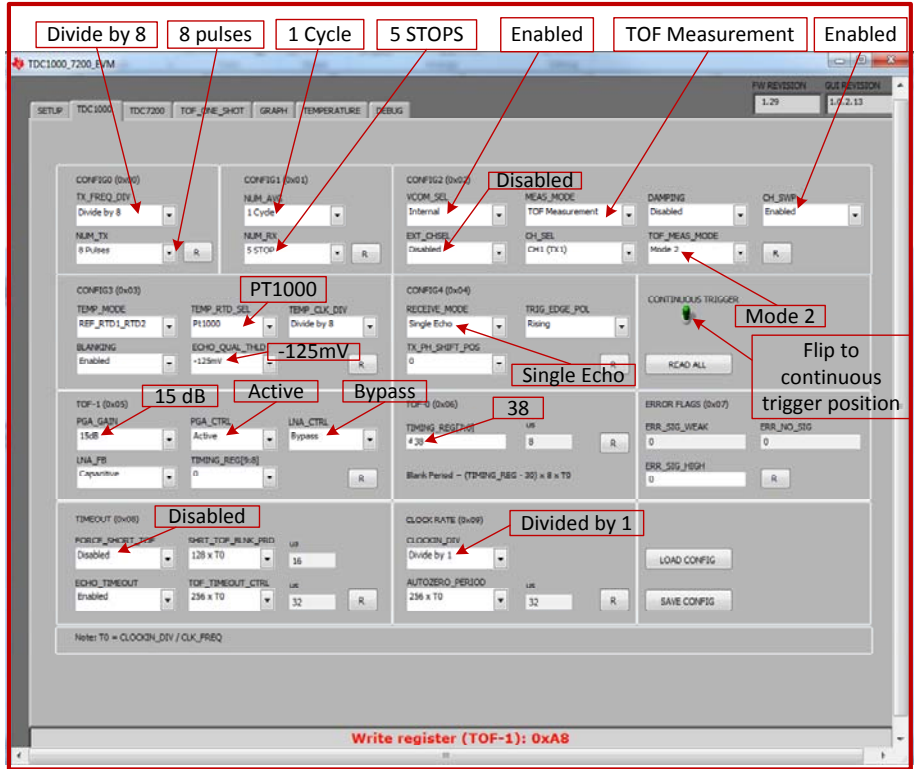
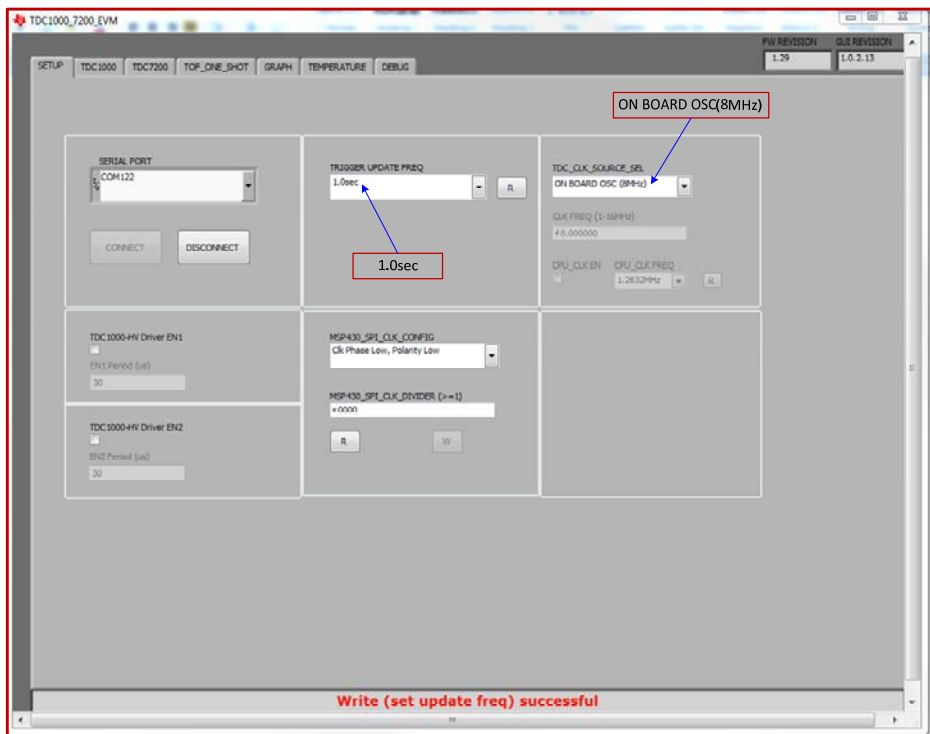
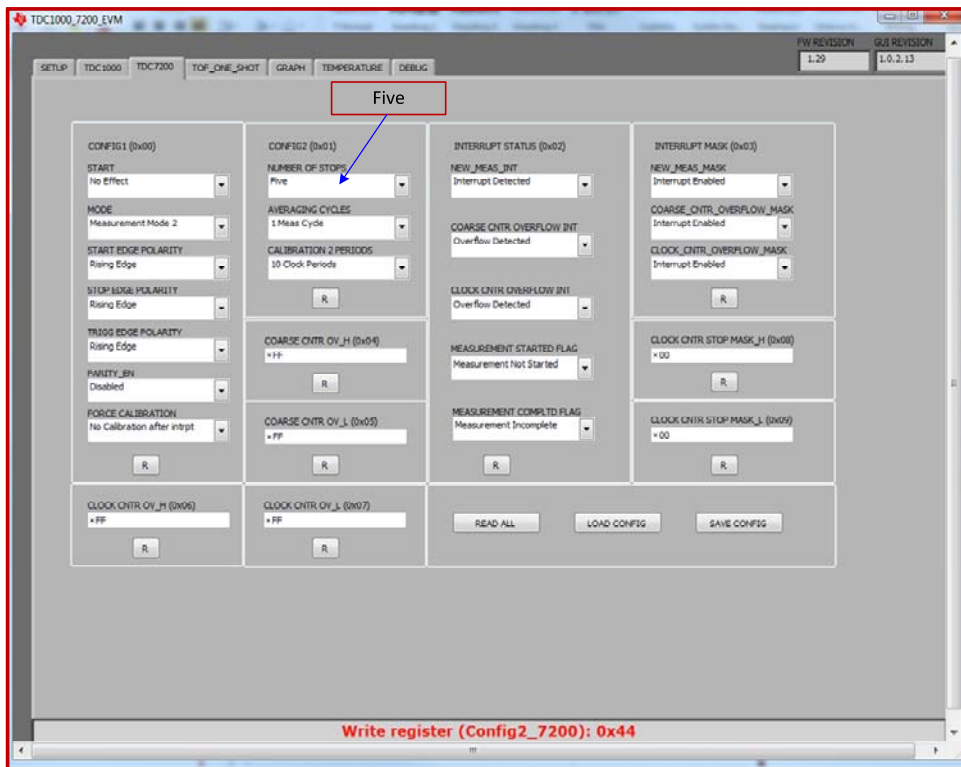

Figure 7. TDC1000 setup menu in the GUI
Figure 8. Sampling interval setup
Figure 9. TDC7200 registers setup
9. Set the registers in the TDC1000 menu to the values shown in Figure 7, Figure 8, and Figure 9. Flip the "CONTINUOUS TRIGGER" switch to the top position (switch will turn to green from red indicating that the system is running).